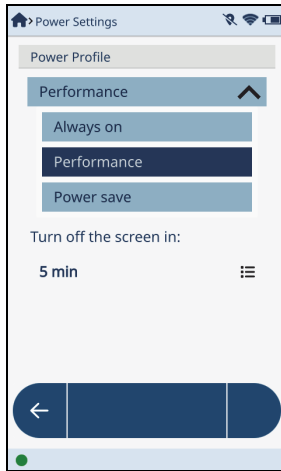

Figure 4-17 Power Settings screen
- ◆ Tap the **Power Settings** button () in the **Menu Tray** to open the **Power Settings** screen (see Figure 4-17 on page 128).